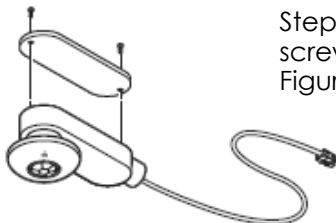

Figure 4
Step 5: Replace the cover and two screws on the LB conduit body. Figure 4.